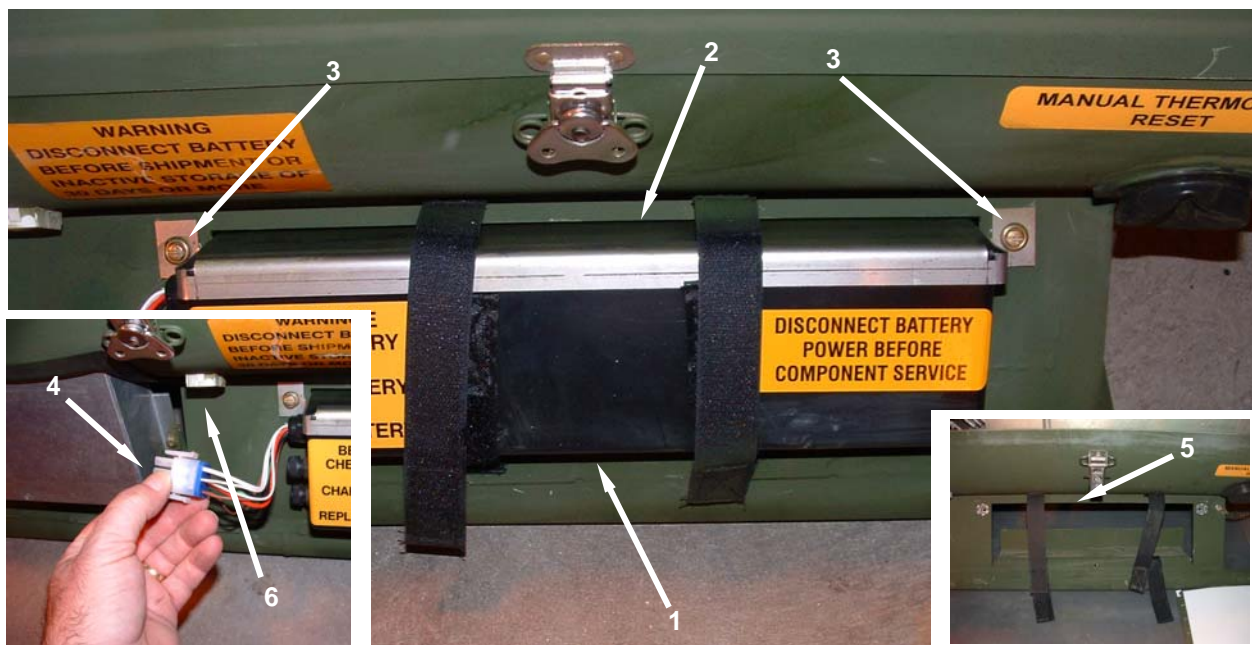

Figure 6. Replace Battery Pack Assembly.
2. To remove the battery pack (**Figure 6, Item 1**), first release the hook and pile retaining straps, and then remove the battery pack retainer (**Figure 6, Item 2**) by removing the two screws (**Figure 6, Item 3**) on either side of the retainer. Remove the retainer.
3. Disconnect the battery pack connector (**Figure 6, Item 4**) by unplugging from portion of connector mounted in side of heater.
4. Slide the battery pack (**Figure 6, Item 1**) out of the recess (**Figure 6, Item 5**) on the side of the heater.
5. Dispose of the battery pack (**Figure 6, Item 1**) in accordance with appropriate military and/or local regulations as described in TB 43-0134.
6. Install a new battery pack (**Figure 6, Item 1**) into the recess (**Figure 6, Item 5**) on the side of the heater. Be sure to orient the connector (**Figure 6, Item 4**) on the side of the battery pack so that it aligns with the connector (**Figure 6, Item 6**) installed on the side of the heater. Engage both halves of the connector and ensure that they are firmly mated.
7. Install the retainer (**Figure 6, Item 2**) in place over the battery pack (**Figure 6, Item 1**). Install and secure the two screws (**Figure 6, Item 3**) that secure the retainer. Secure the hook and pile retaining straps in place.